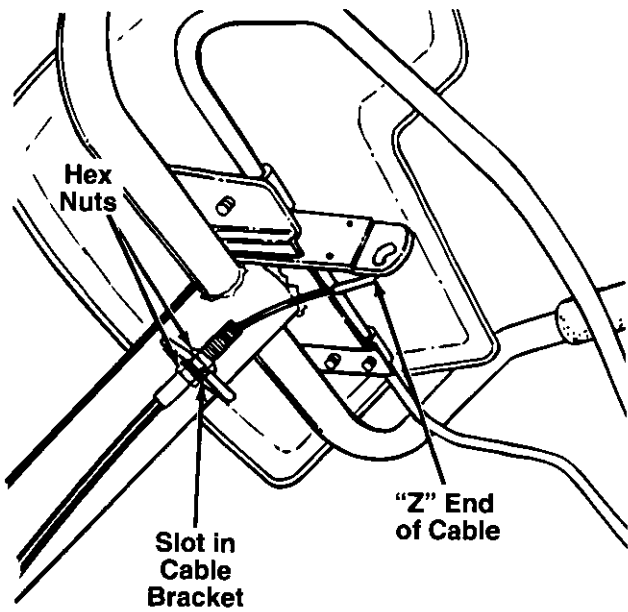

FIGURE 6.—Viewed beneath handle panel.
1. Route the clutch cable through the cable clip underneath the handle. Be careful not to bend or kink the cable. Refer to figure 3. Remove one hex nut from the threaded casing on the end of the cable. See figure 6.
3. Pull the cable upwards to obtain slack, and hook the "Z" end of the cable into the bracket on the clutch control (beneath the handle panel) as shown in figure 6 (from right to left). Tighten the nut against the cable bracket.
**If the belt turns with the unit in neutral**, adjust by moving the hex nut below the cable bracket **down** a few turns. See figure 6. Tighten the upper hex nut against the bracket.
The clutch handle is located beneath the handle. See figure 6. Squeezing the clutch handle against the handle engages the wheel and tine drive mechanisms.